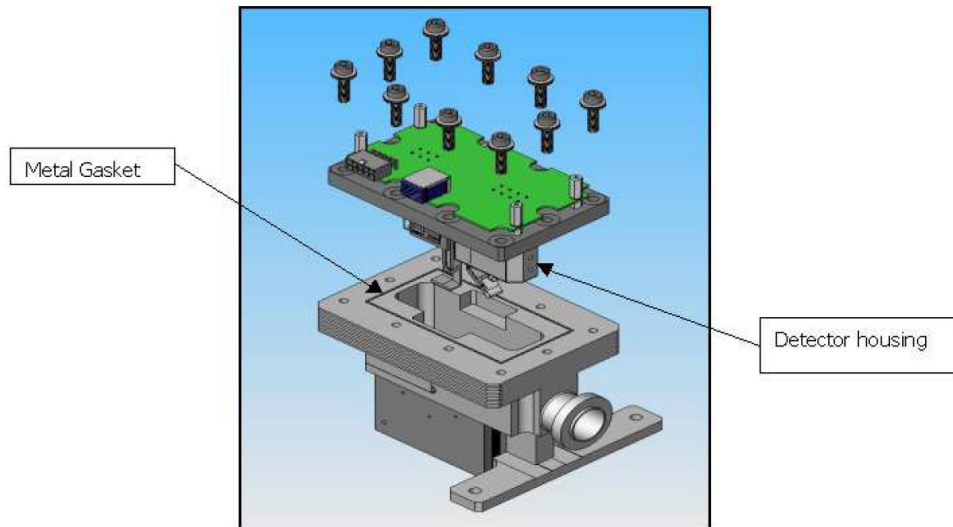

Figure 3-12. Spectrometer alignment
24. Center the replacement metal gasket inside the bolt pattern and outside of the body cavity. To prevent scratching of any sealing surface, do not use metal tools for this task (Figure 3-12).